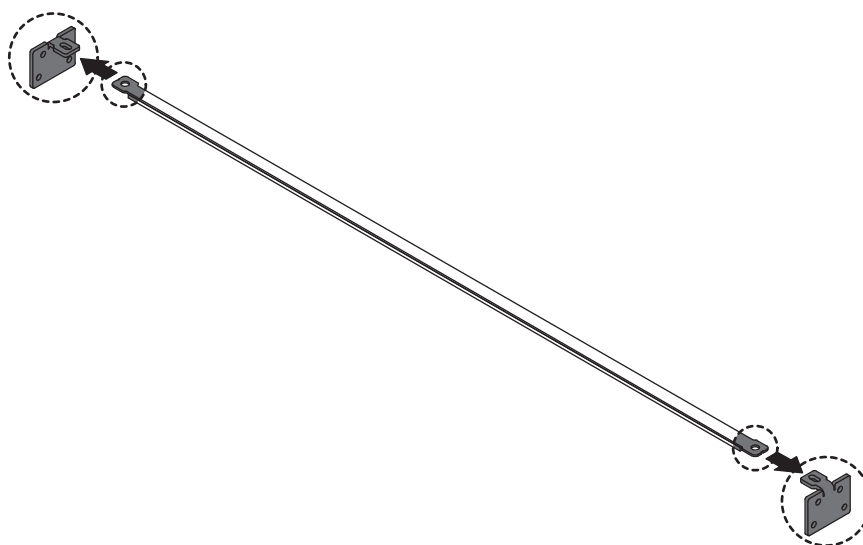

Fig. 15 Positioning the Recoater strip.
6. Mount the end of the Recoater strip under the angle bracket (fig. 15).